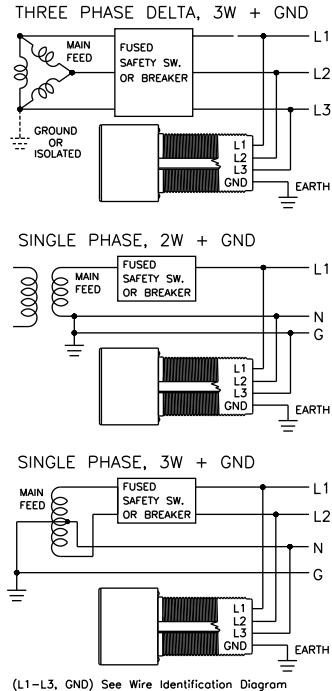

Fig. 3
5. For Delta configured power, connect the 1 bar, 2 bar & 3 bar black wires to L1, L2, & L3 respectively (Fig. 1) on the fused or disconnect side of the 3-Phase line voltage. The Green/Yellow stripe (Grn/Yel) wire **MUST** be connected to Earth Ground. (Fig. 3)